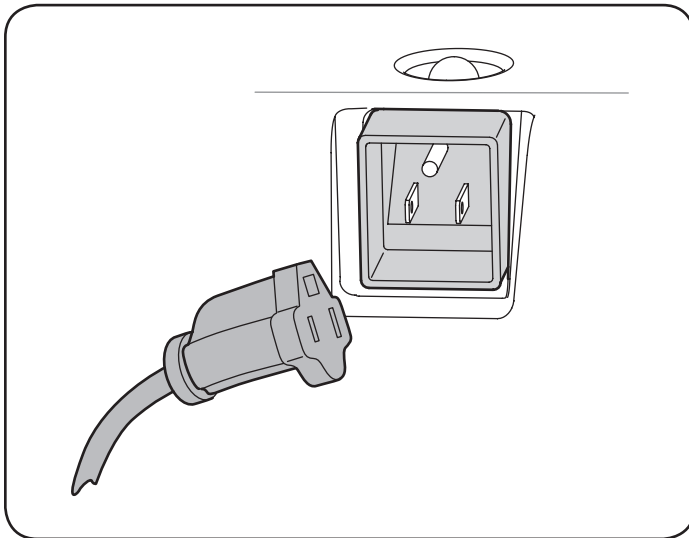

Figure 4
3. Plug the extension cord into the outlet located on the engine's surface. Plug the other end of extension cord into a three-prong 120-volt, grounded, AC outlet in a well-ventilated area See Figure 4.